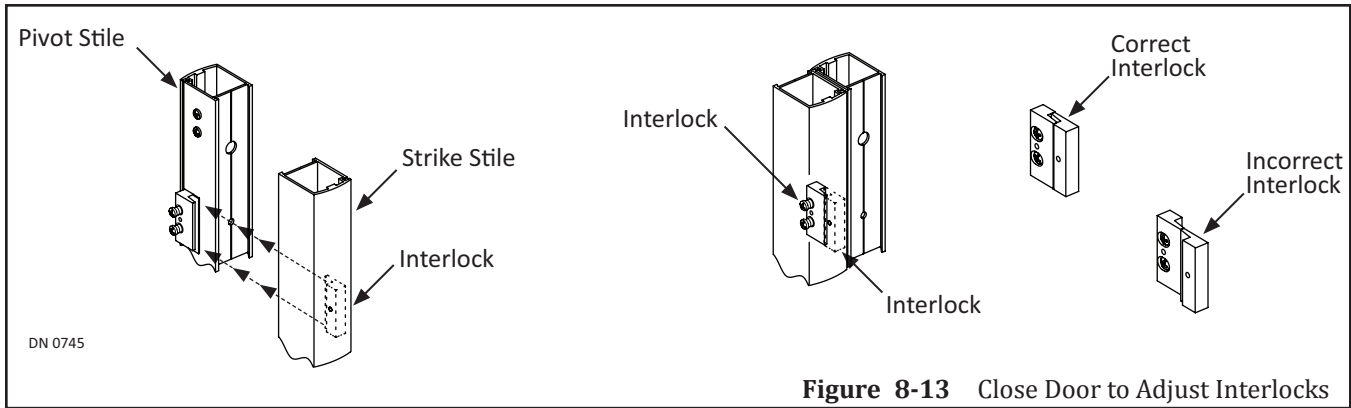

Figure 8-13 Close Door to Adjust Interlocks
4. Manually close each Slide Door. Please see Figure 8-13.